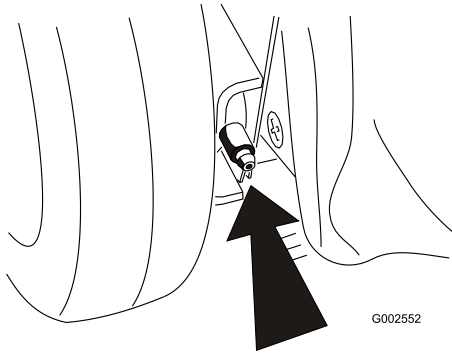

Figure 21
2. Wipe the grease fittings with a clean rag (Figure 21).